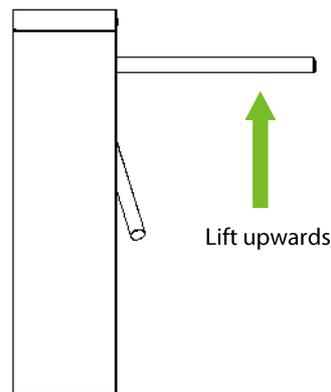

Figure 2-3
3. Lift the arms manually, as shown in figure 2-3.